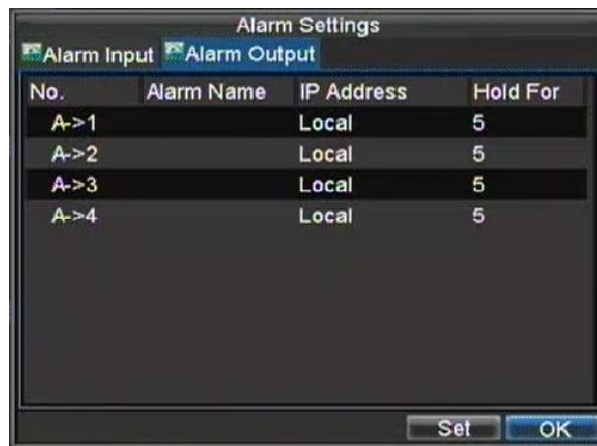

Figure 8. Alarm Output Interface
1. Select the **Alarm Output** tab. This will bring up the Alarm Output interface, shown in Figure 8.